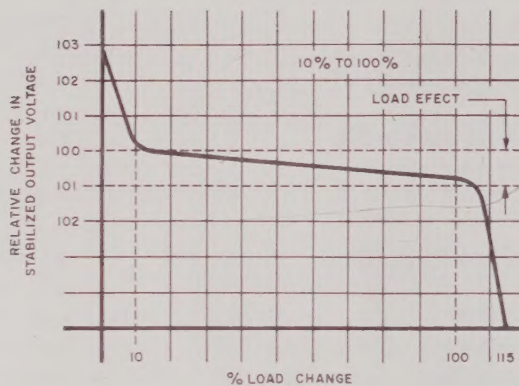

FIG. 1-3 LOAD EFFECT GRAPH, RMK-D SERIES
- 2) LOAD EFFECT (10% to 100% LOAD): 0.2% typical, 0.4% maximum (See also FIG. 1-3).